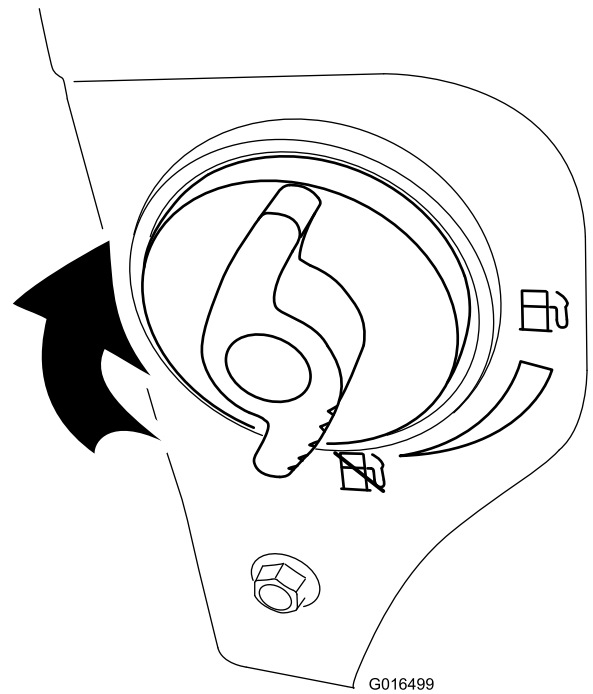

Figure 33
- 4. Close the fuel shutoff valve by rotating it clockwise (Figure 33).